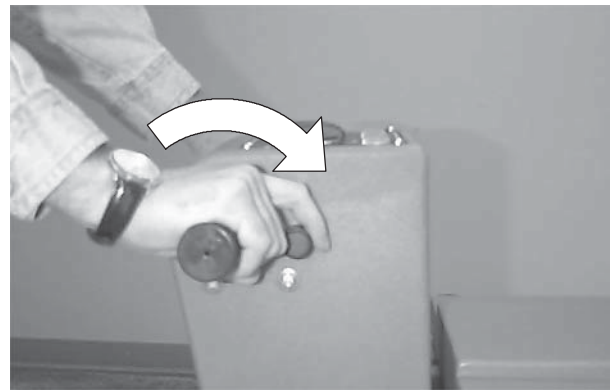

FIG. 14
4. Twist control grips forward to begin burnishing. Gradually turn speed control knob to desired cleaning speed (Figure 14).